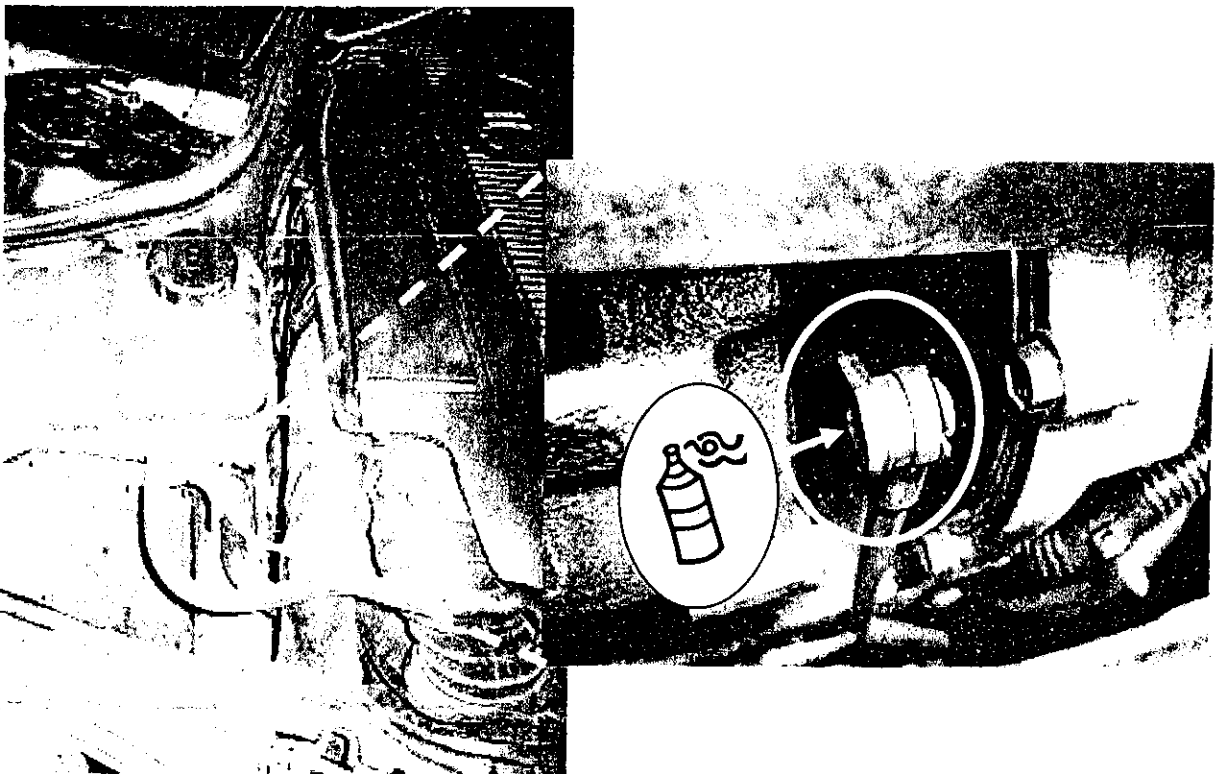

Figure 1
2. Spray ATL kinematics (adjustment shaft, joint) with "Ferroform Locc", (figure 1) and allow it to work in for 2 minutes.